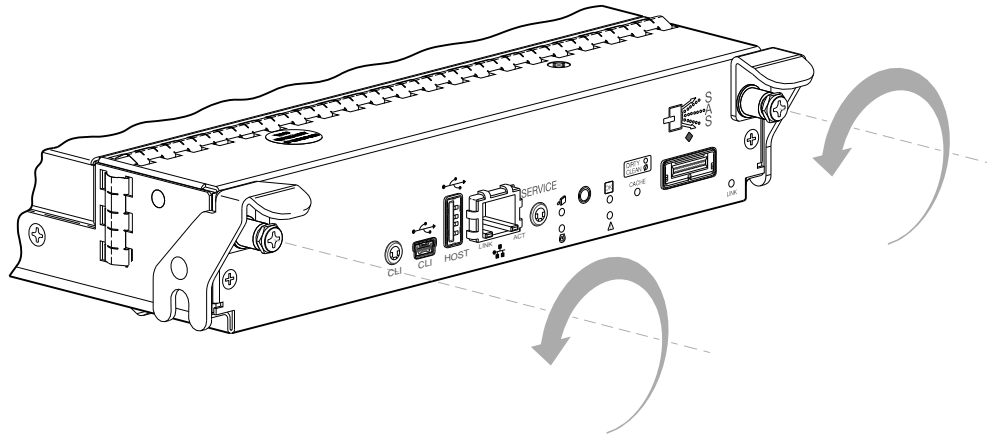

Figure 17 Disengaging a controller module
4. Turn the thumbscrews counterclockwise until they disengage from the controller (see Figure 17 on page 33).